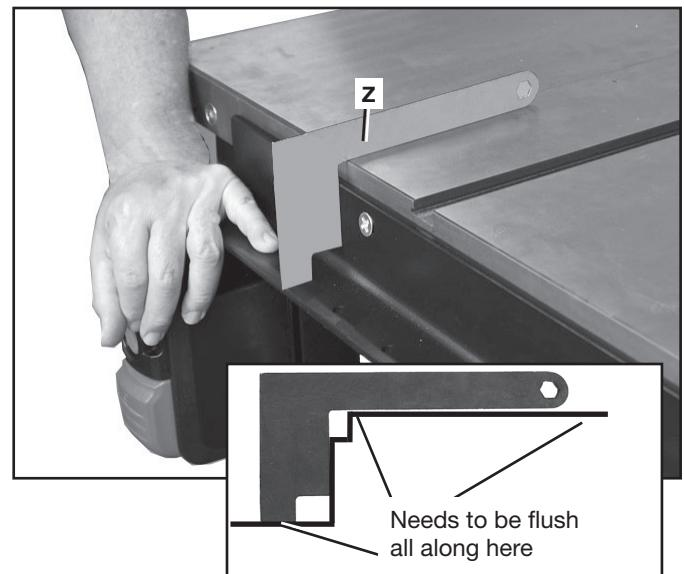

FIG. 14
4. Using template (Z) Fig. 14, check rail position at left side of table as shown, then the right side. Then re-check both left and right side after tightening. The gauge must be fully on the table and just touch the rail surface. See inset Figure 14.
5. When positioned as described above, the horizontal portion of the rail should be down from the top of the table surface 2-7/8" (73.03 mm). **Tighten the front rail mounting hardware when you are certain the rail is set at the proper depth.** See inset Fig. 14 for cross-section showing where to check for flush.